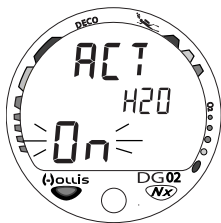

Fig. 29 - Set Wet Activation
- While the Surface Sequence is scrolling, depress the button until the Set Wet Activation screen appears with the Set Point flashing (Fig. 29), then release the button; or when the screen appears after having set Digital Gauge Mode.